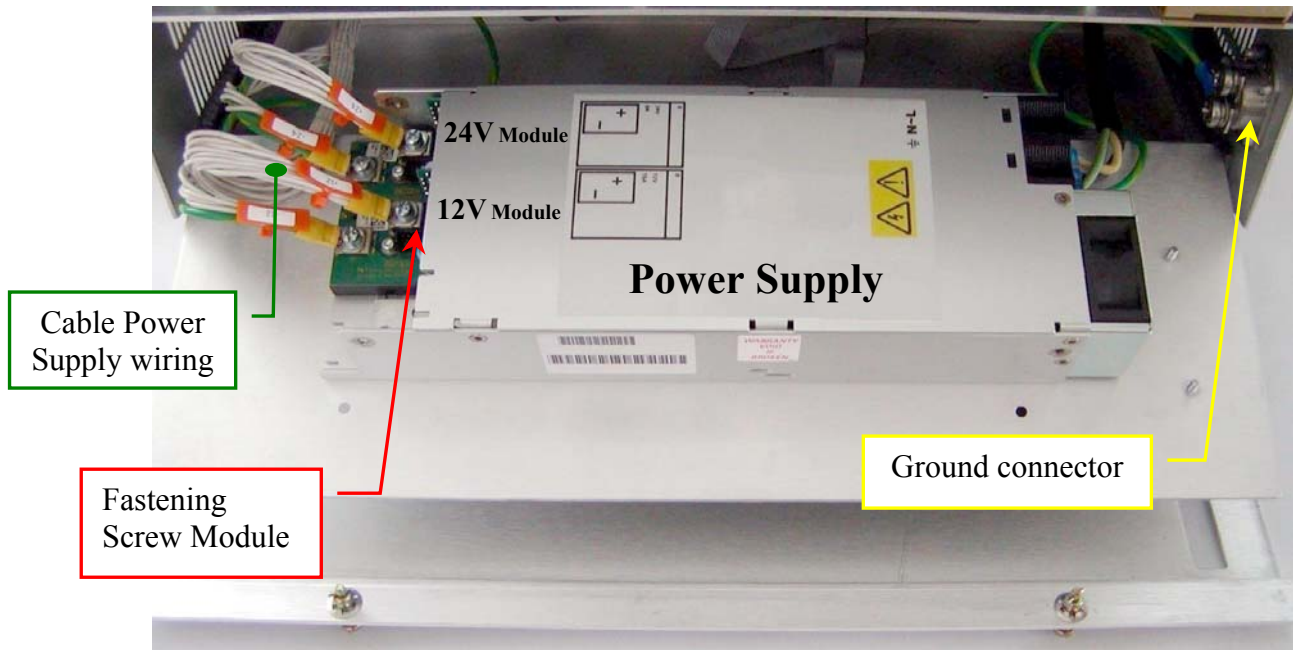

Fig. 55 - Power Supply Rack
23. Extract the Power Supply Rack from its vain (Fig. 55).
24. On the Power Supply, unscrew the four fastening screw of the “24V Module” and “12V Module” and then, remove the relative four cables [JP24+, JP24-, JP12+, JP12-] of the Power Supply wiring (Fig. 55).
25. Unscrew the two ground connector fastening screws and remove all its ground wires (Fig. 55).
27. Close the Electronic Rack panel screwing the two quarter-turn fasteners (Fig. 55).